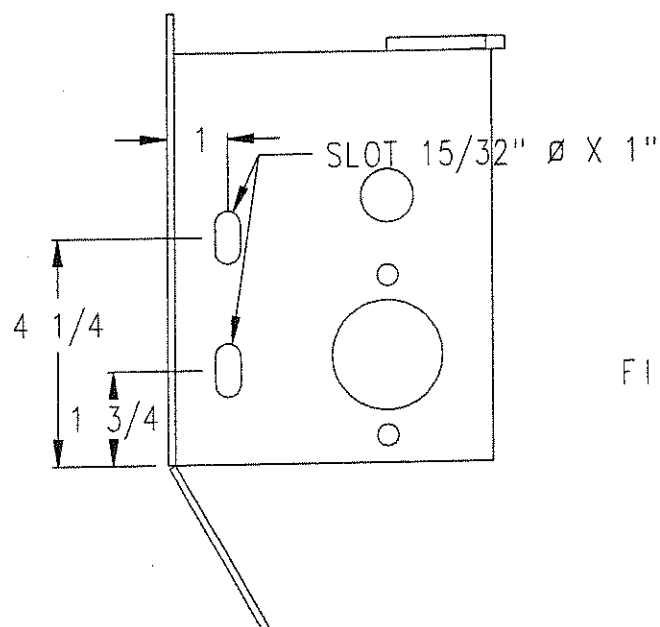

FIGURE 20
MOUNTING THE ACRE METER TO PULL-TYPE DRILLS (Figure 20 & 21)
1. Check the side plates of the clutch housing to be sure there are two 15/32" holes on each plate. Some drills may not have these holes. If not, the first hole should be bored 1 3/4" below the 4" X 7" bar and 1 1/8" from the extreme outside of the front of the clutch housing. Drill one hole in each of the two side plates of the clutch housing. If your drill has a clutch housing on each end, you will only need to drill one end. Then drill another 15/32" hole 2 1/2" below the first hole. These holes will be used to mount bearing holders. See Figure 20.